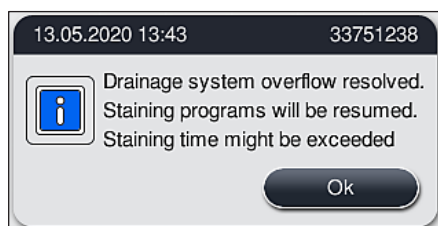

Fig. 121
- ✓ If the blocked water drains, another message on the display (→ "Fig. 121") informs the user that staining programs can be continued. Press **Ok** (→ "Fig. 121") to continue.
1. If the further cleaning attempts are successful and the blockage could be removed, the water level falls below the critical level. A message on the display (→ "Fig. 121") informs the user that staining programs can be continued. Press **OK** (→ "Fig. 121") to continue. The startability of the programs is displayed and the programs in the process continue automatically.